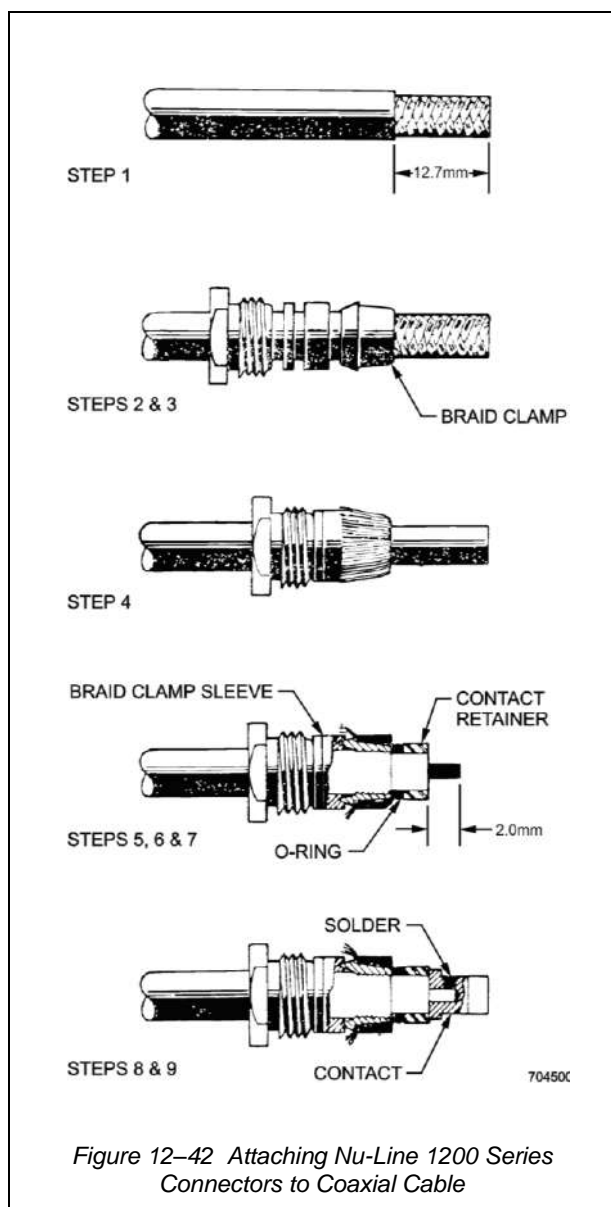

Figure 12-42 Attaching Nu-Line 1200 Series Connectors to Coaxial Cable
36. For assembly of Nu-Line 1200 Series coaxial connectors to coaxial cable, (see Figure 12-42), use the following procedure: